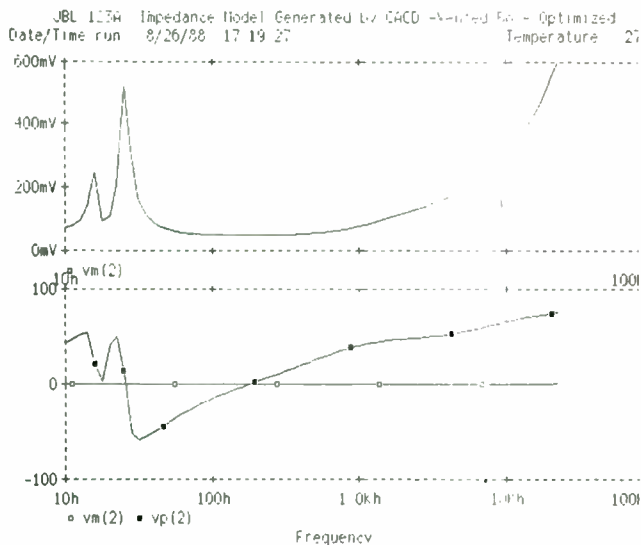

FIGURE 8: Impedance curve of JBL 123A generated from the circuit model of CACD. Upper curve is impedance and lower curve is phase. Generated by PSPICE.
to find the components to make the driver look like a constant resistance (see Figs. 8 and 9, which are before and after compensation). [The author generated these curves from PSPICE to check the accuracy of the model and the compensation—Ed.]
Used to perform analysis on the models of the drivers generated by CACD. See *Fig. 8* and *Fig. 9*. (Evaluation Version) (Available from Madisound Bulletin Board (608) 836-9473)